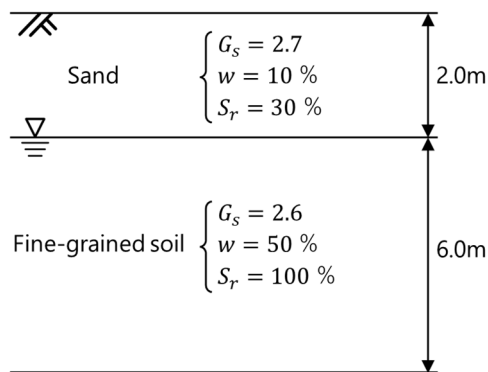

Fig.1 Target ground
- (1) The ground consists of a sand layer 2.0 [m] thick and a fine-grained soil layer 6.0 [m] thick, as shown in Fig. 1. The groundwater table is located 2.0 [m] below the ground surface; it can be regarded that the sand layer shallower than the groundwater table is unsaturated, and the fine-grained soil layer deeper than the groundwater table is saturated. Geotechnical investigations were conducted on the sand and fine-grained soil layers, respectively, and the results are shown in Table 1. Note that the density of water ρ_w is 1.0×10^3 [kg/m³] and the magnitude of gravitational acceleration g is 9.8 [m/s²].